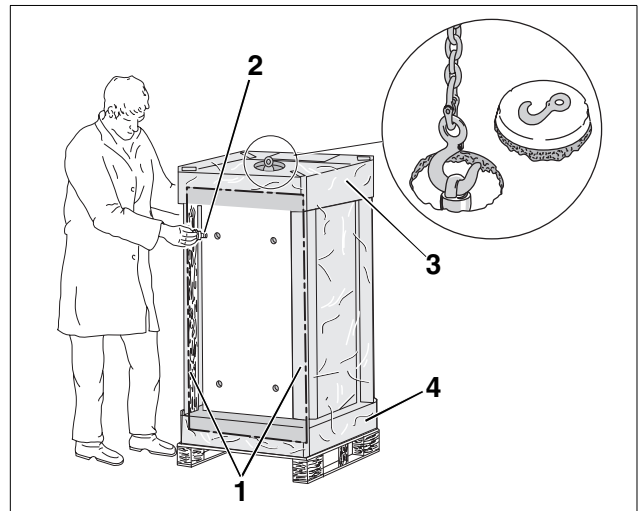

Fig. 3 Cut out of plastic wrapping and screwing in of feet
- Remove plastic wrapping across from the side of the tank labelled "Kessel -Speicherbefestigung" (Fig. 3).
- Screw in the 4 tank feet (Fig. 3, **Item. 2**) (packaged with boiler in plastic bag) about 1/2" into the bottom of the tank.
- Remove the two wooden corner posts (Fig. 3, **Item. 1**) from the bottom side of the tank.